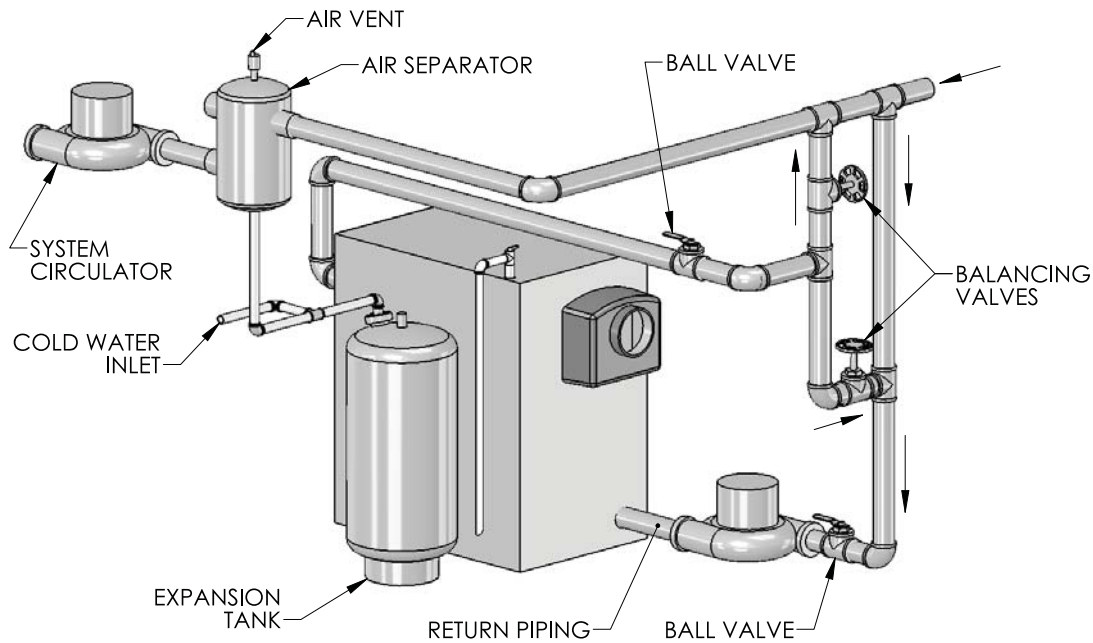

Figure 3.6: Water Boiler Piping
2. Typical piping for a Series CC water boiler is shown in Figure 3.6.